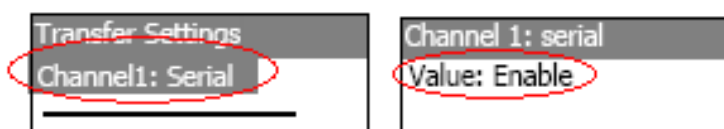

图 1.2.3
3. 进入“Logon/Settings”后选择“Transfer Settings”选项使能Channel1, 如图 1.2.3所示: